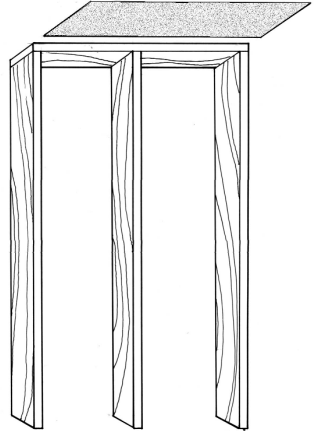
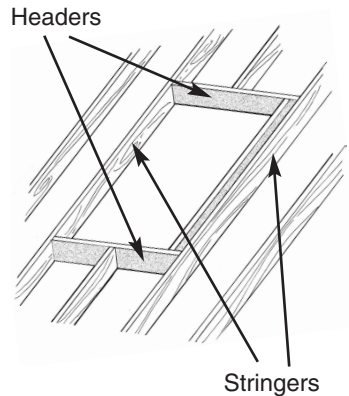

Figure 3
Figure 4
2. If you are cutting the ceiling joist, brace the area below the joist to be cut with heavy timbers to prevent this area of the ceiling from sagging (Figure 3). To maintain the structural integrity of the ceiling, the frame, two headers and a stringer (as shown in Figure 4) should be constructed of two-inch lumber and nailed securely to the ceiling joists.